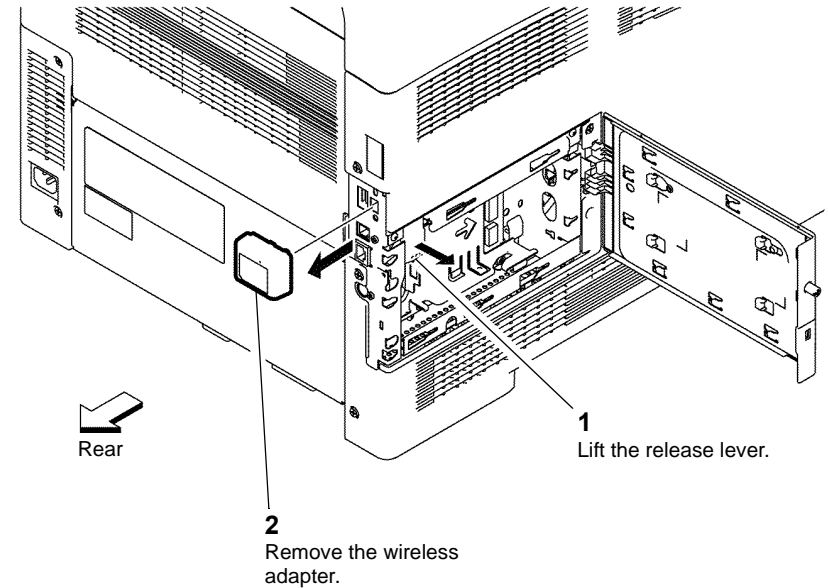

Figure 1 Wireless adapter
1. Remove the wireless adaptor, Figure 1.